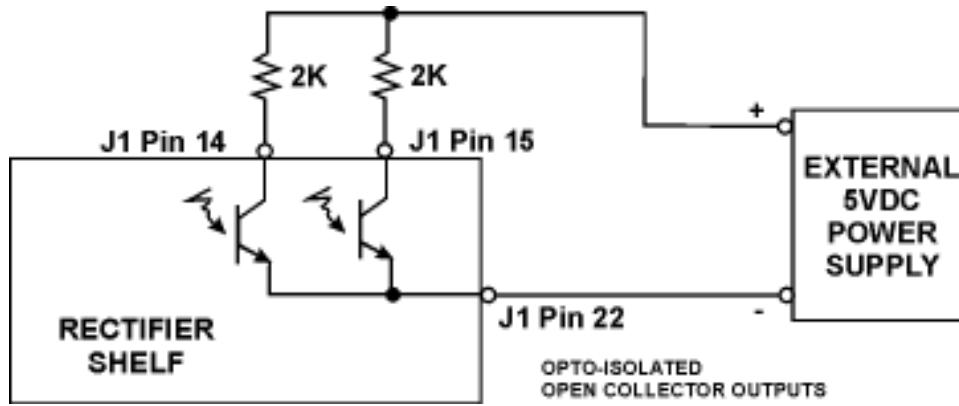

Figure 10. Checking AC Good and DC Good Outputs
- 19.9 Checking the AC Good and DC Good Outputs.** Connect the - lead of an external 5V power supply to Signal Common (J1 Pin 22). Connect one end of a 2K resistor to the + lead of the 5V supply and the other end to the AC Good output (J1 Pin 14). Connect one end of another 2K resistor to the + lead of the 5V supply and the other end to the DC Good output (J1 Pin 15). See Figure 10. Reconnect the Remote Enable wire. Measure the output voltage at both J1 Pins 14 and 15 with respect to Signal Common (Pin 22) with a digital voltmeter. Both voltages should be less than 0.5VDC, indicating a TTL LO.